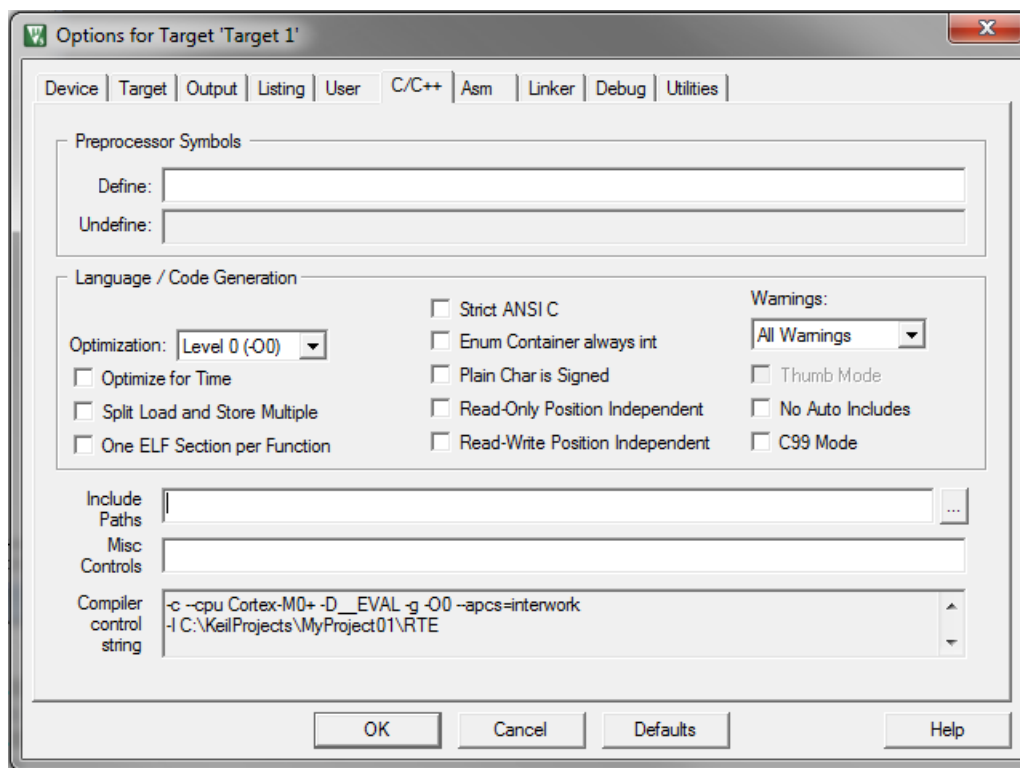

Figure 1-37. Library path addition
2. Select the C/C++ tab. See Figure 1-37.